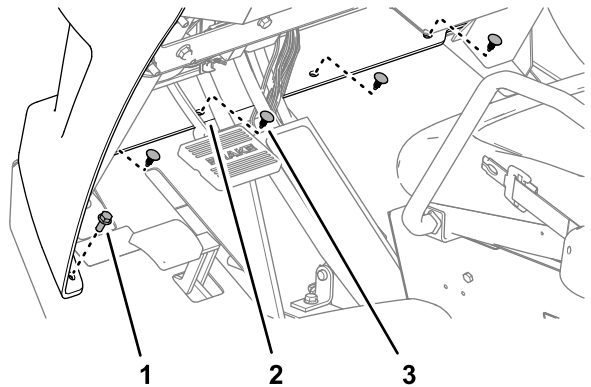

Figure 95
4. Assemble the bottom flange of the hood to the machine with 4 push-in fasteners (Figure 95).
5. Secure the flange to the machine (Figure 95) with 2 flange-head bolts (5/16 x 3/4 inch).